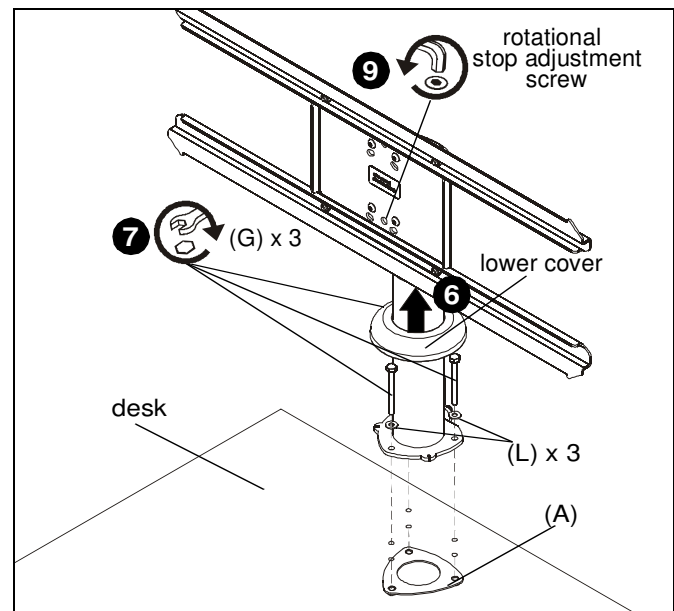
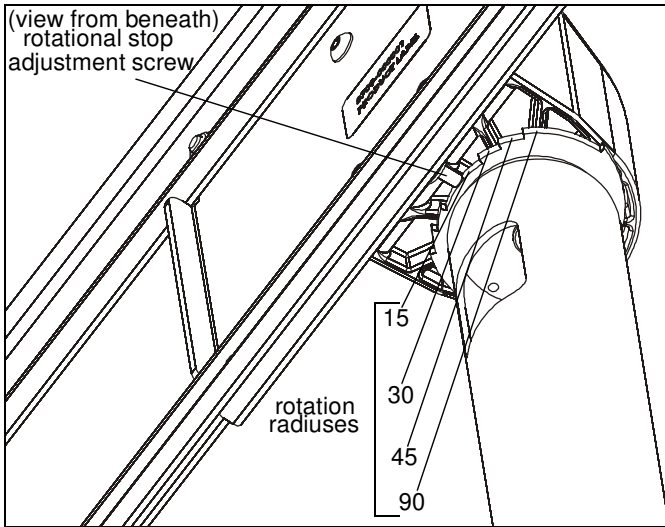

Figure 3
Figure 5
6. Lift lower cover on table stand to expose holes on lower plate. (See Figure 3)
7. Use three 1/4-20 x 2 1/2" hex head cap screws (G) and three 3/16" washers (L) to secure table stand (B) to desk and clamping plate (A). (See Figure 3)
9. Use the 5/32" security hex key (W) to loosen rotational stop adjustment screw until desired radius is achieved. (See Figure 3) and (See Figure 5)